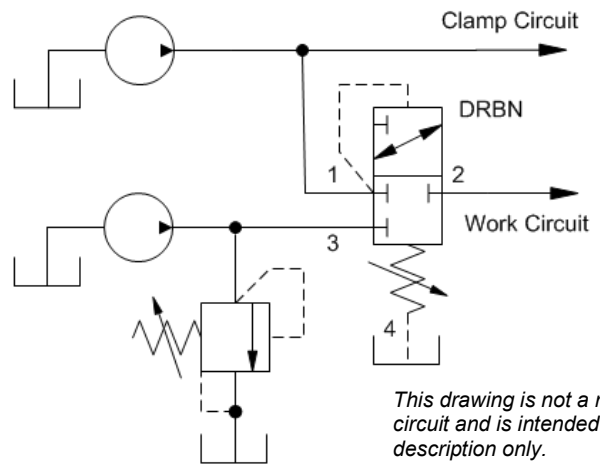

Figure 7.
- Normally closed 2-way, four port cartridges are primarily used for blocking functions in the absence of a remote pressure signal. (See Figure 7.)